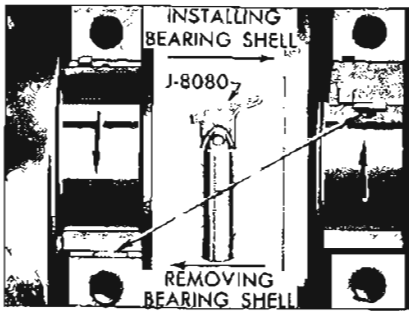

Figure 2-78—Removal and Installation of Crankshaft Bearing Upper Shell
7. Remove upper bearing shell by inserting Bearing Shell Remover and Installer J-8080 in oil hole in crankshaft, then slowly turning crankshaft so that the tool rotates the shell out of place by pushing against the end without the tang. See Figure 2-78. **CAUTION:** When turning crankshaft with rear bearing cap removed hold oil seal to prevent it from rotating out of position in crankcase.